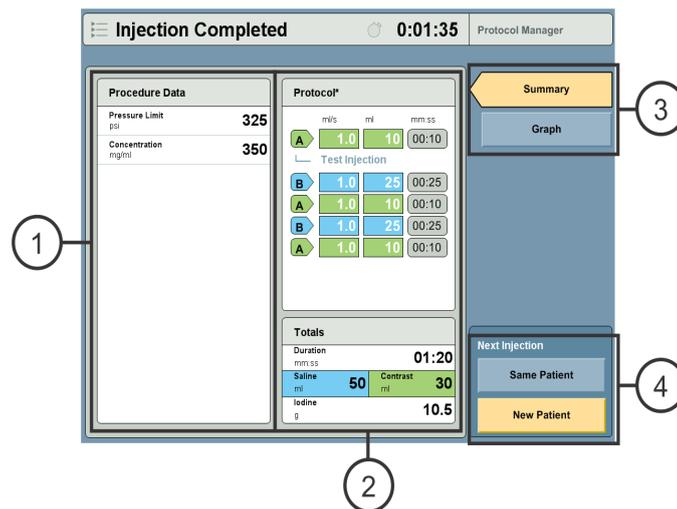

Figure 11 - 1: Injection Complete - Summary
- ◆ the Injection Completed screen displays a summary of injection parameters and the actual parameters delivered (Figure 11 - 1: Injection Complete - Summary), and